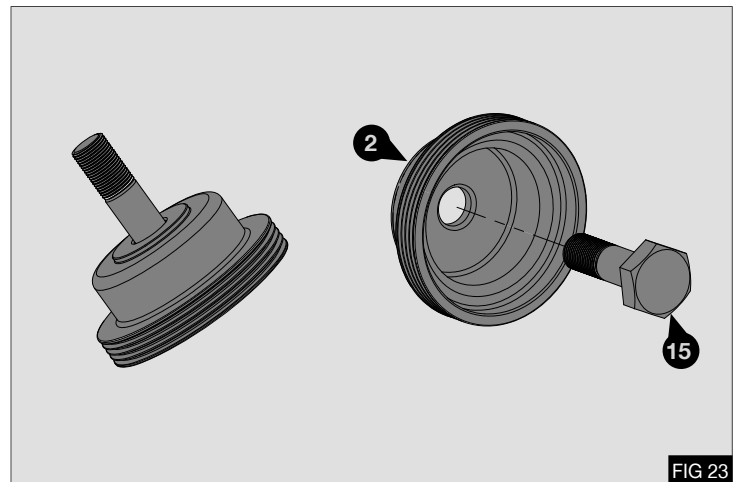

FIG 23
1. Assemble the supplied M20 x 66 bolt (15) into the additional drive pulley (2) - Fig 23